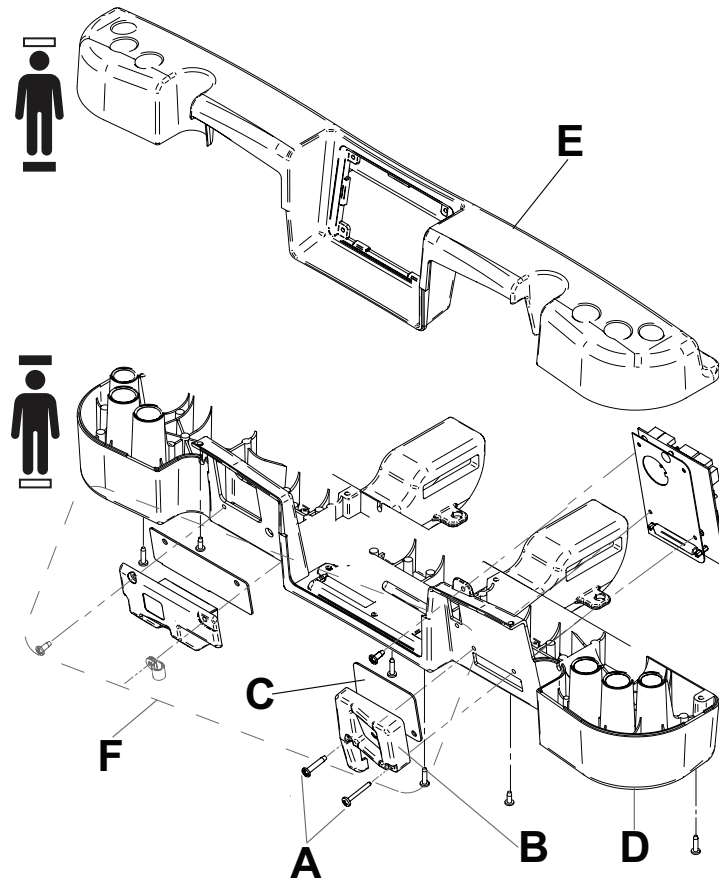

Figure 76 – headwall communication board
11. Using a #2 Phillips screwdriver, remove the two screws (A) that secure the right IR module (B) and gasket (C) to the head end frame (D) (Figure 76). Save the screws.
12. Using a #2 Phillips screwdriver, remove the screw that secures the headwall communication board (E) to the head end frame (D) (Figure 76). Save the screw.
15. If the bed is equipped with the Smart TV option (F), transfer the Smart TV board from the old headwall communication board to the new headwall communication board (Figure 76).